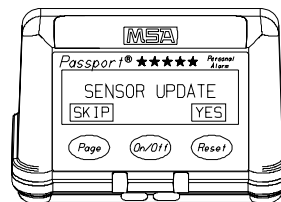

Figure 1-5.
- Screen changes to FIGURE 1-5.